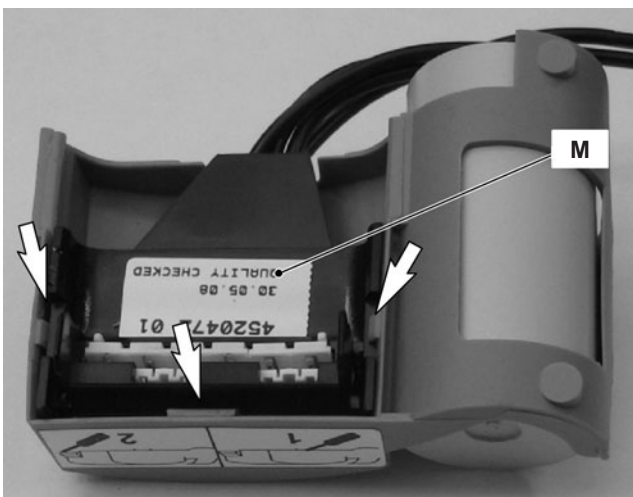

Figure 7.4
- 3 Remove the connector M of the cover box by levering with a screwdriver in as shown in (Figure 7.4).